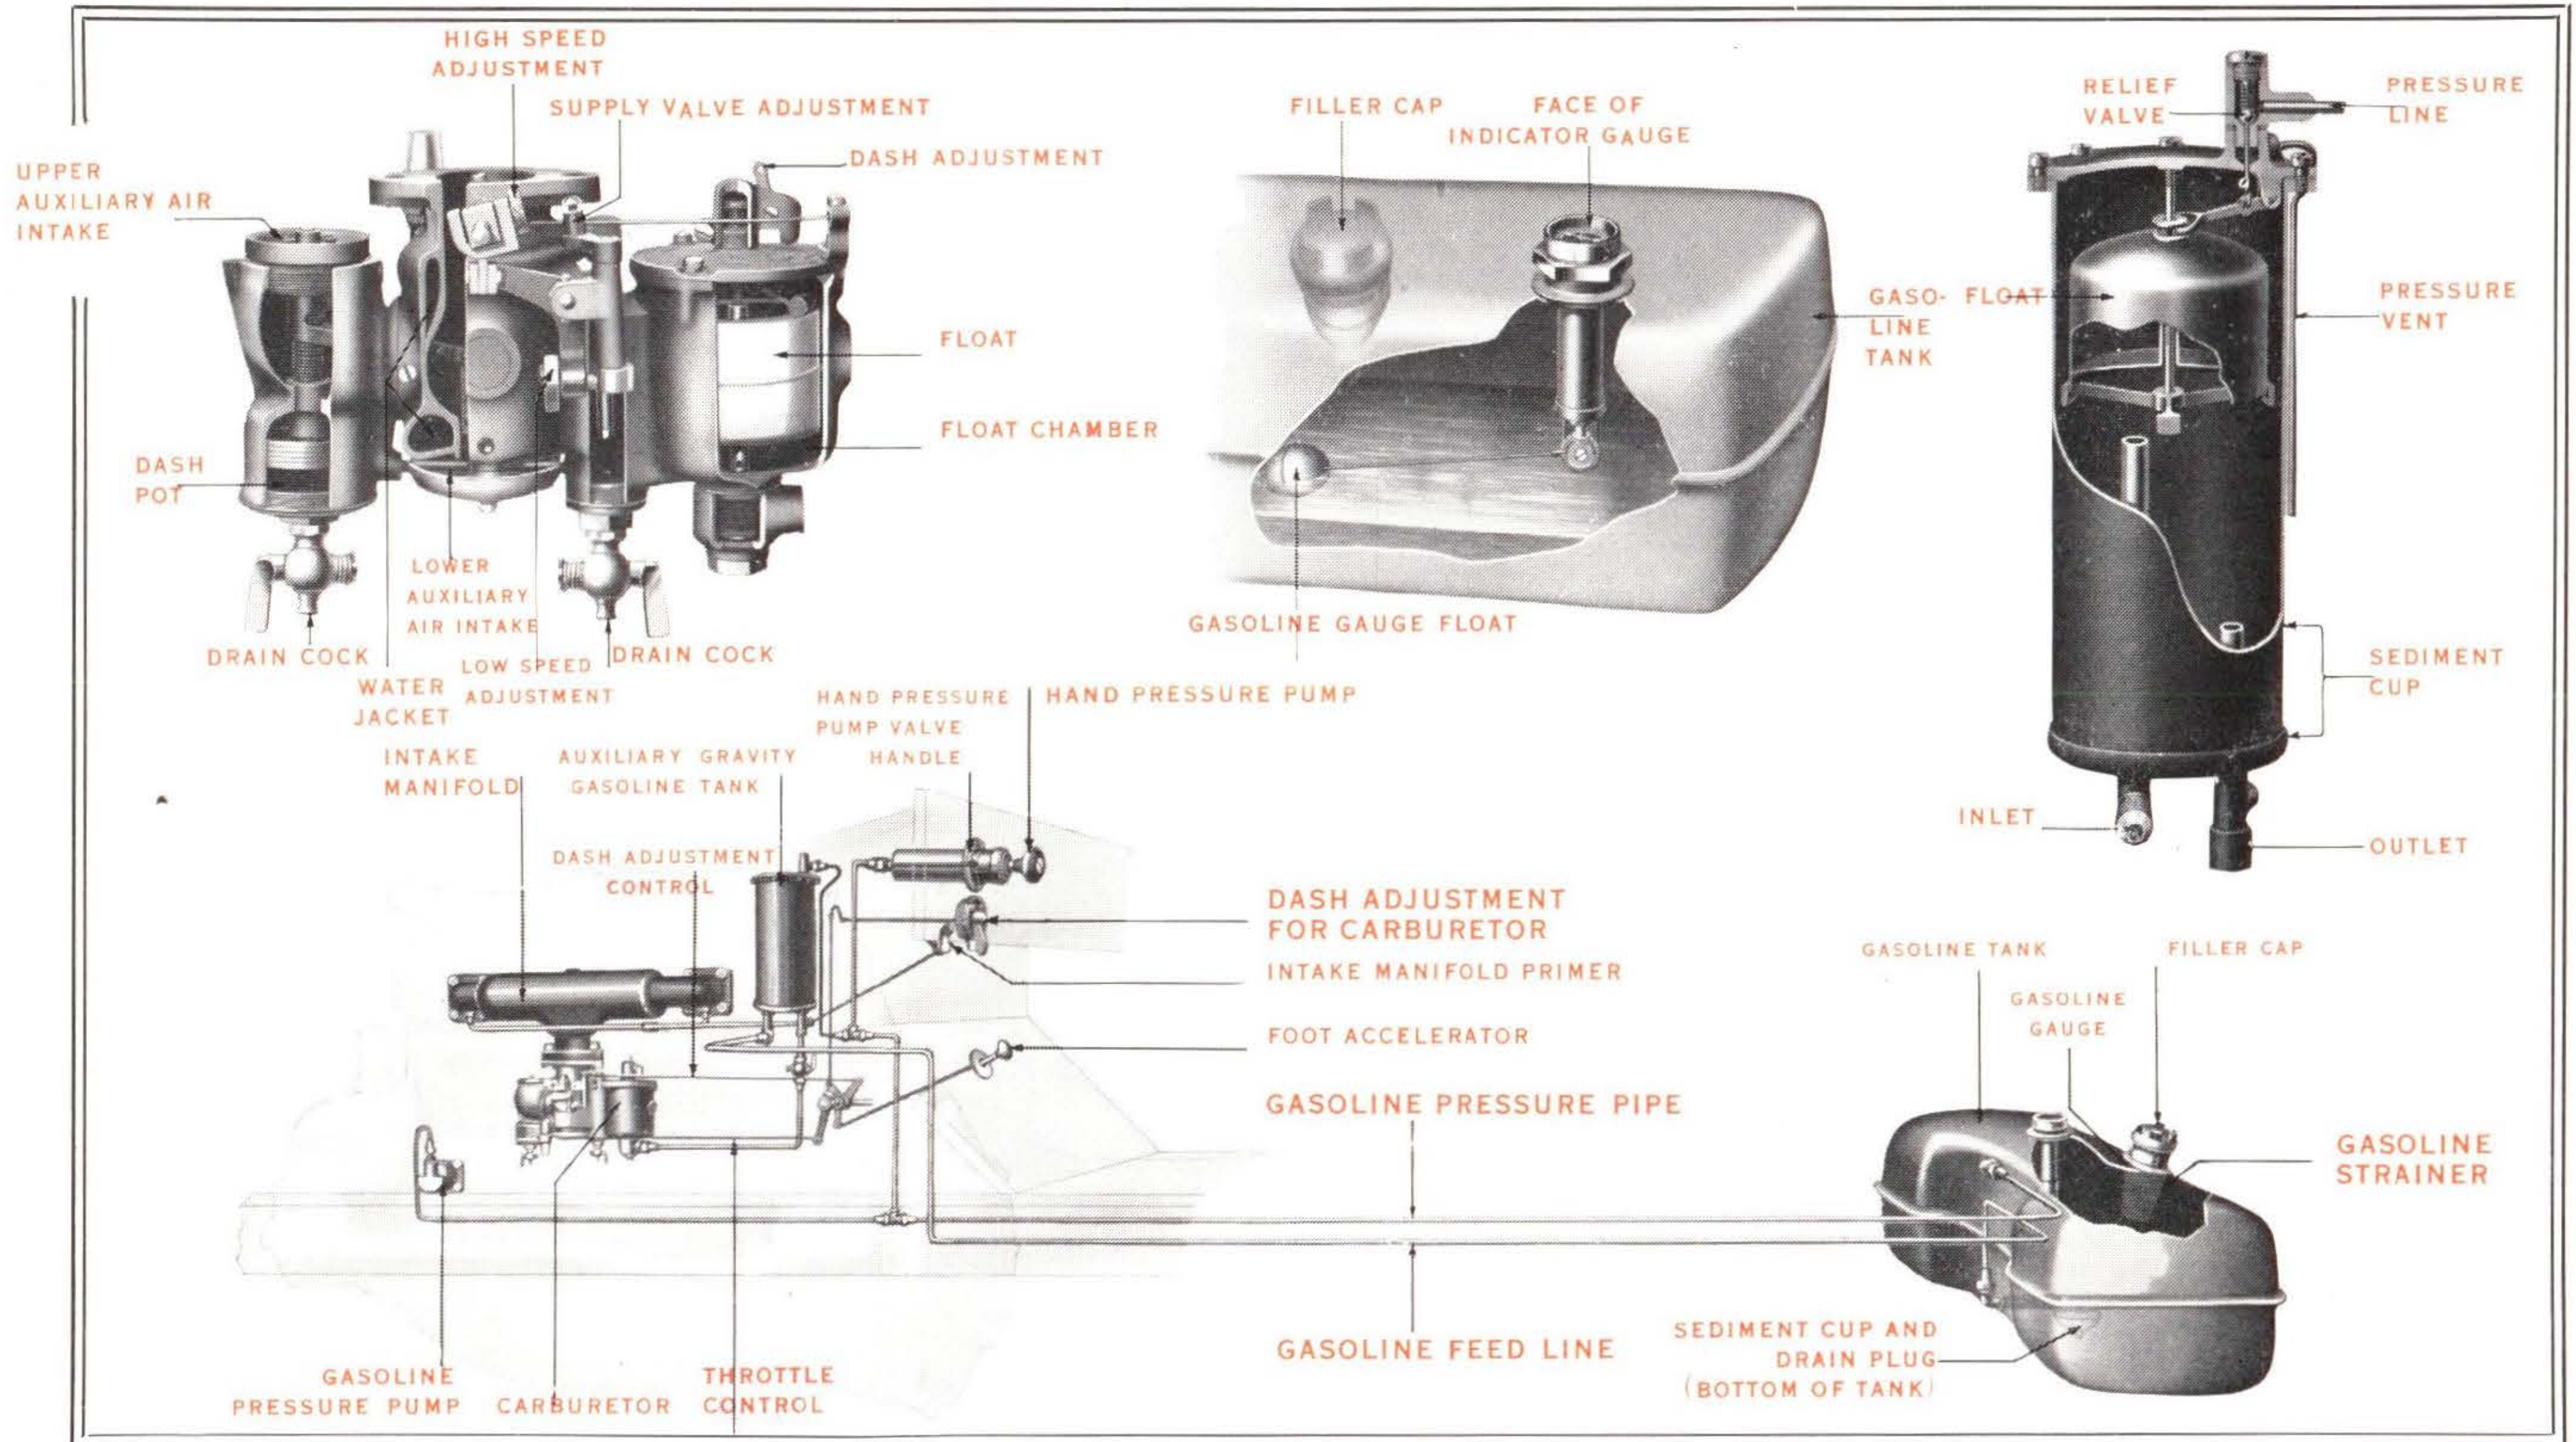

Fig. 4—Gasoline System of the Chalmers "Master Six" (Model 29)
The gasoline system consists of (1) the main gasoline tank at the rear of the car and the pressure pump; (2) the gasoline feed pipe; (3) the auxiliary gravity tank with its constant level float valve; (4) the carburetor; (5) the intake manifold. (See Figure 4.) Gasoline flows under pressure from the main tank at the rear of the car through the gasoline feed pipe to the auxiliary gravity gasoline tank under the hood in which a constant level is maintained by means of a float valve, and from the gravity tank the gasoline flows to the carburetor. Here it is vaporized and mixed with air. The mixture is drawn by the suction of the descending piston into the cylinder, where it is properly compressed and exploded by the magneto spark.
See Figure 4 for general diagram of gasoline system.
Be sure the gasoline tank filler cap (see Figure 4) is always air-tight.
The float chamber (see Figure 4) maintains a constant level or supply of gasoline for the motor.
After leaving the float chamber the gasoline passes through a nozzle (see Figure 4) from which it is sprayed in a fine stream into the mixing chamber. The quantity of gasoline passing through the nozzle is regulated by the "supply valve" and a metering pin under the automatic air valve. The supply valve of the Rayfield carburetor is adjustable both from the dash and by the throttle. The dash adjustment of the carburetor (see Figure 1, Page 11) gives a
The suction created by the downward motion of the motor pistons draws air into the mixing chamber through the primary and auxiliary air inlets. (See Figure 4.) This air rushes through the mixing chamber around the nozzle and the metering pin and picks up the gasoline which leaves the nozzle and jet in the form of a spray. Thus the action of the mixing chamber is not unlike that of an ordinary atomizer in which the air, forced from the rubber bulb, picks up a certain amount of the liquid in the bottle and sprays it out in the form of a fine vapor.
At the front end of the carburetor is the main auxiliary air inlet. This is controlled by a spring and dash pot. (See Fig. 4.) At low speeds, when only a small amount of air is being drawn through the carburetor, the spring and the dash pot hold this valve almost shut. As the speed increases and more air is needed, the suction operating against the tension of the spring draws the valve further and further open, thus giving an increased supply of air exactly in proportion to the need for the increased speed. The carburetor thus automatically produces the correct mixture for all motor speeds.
On the throttle lever of the carburetor and at the base of the dash supply valve adjustment lever (See Fig. 4) are two nickel-plated screws for the permanent adjustment of the gasoline supply
The throttle valve, which is of the "butterfly" or "shutter" type, is located just below the inlet manifold. (See Figure 4.) It is connected by a rod with the hand throttle and the foot accelerator. (See Figure 1, Page 11.)